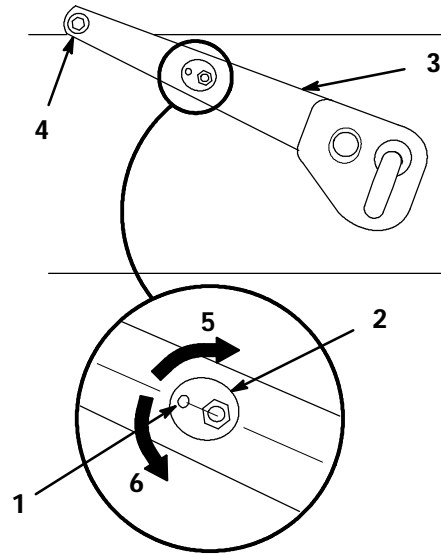

Figure 18
1. Check to see that both adjustment cams are oriented with the indicator toward the pivot point at the rear of the tractor (Fig. 18).